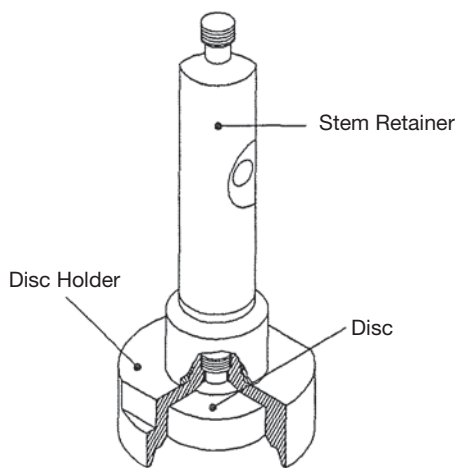

Figure 6.6
11. Remove the **Disc** [4] from the **Disc Holder** [6] (**Figure 6.6**).